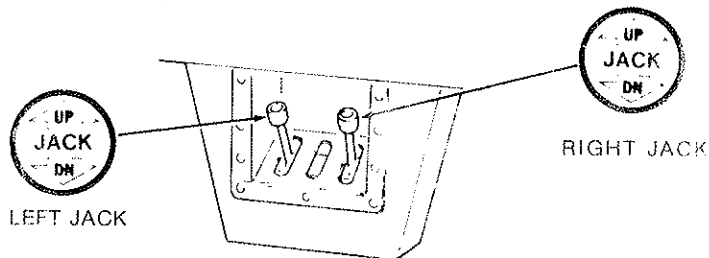

FIG. 2.3
2.6 The jacks are lowered or raised by activating control handles located at the forward control stations on either side of the wrecker body. (FIG. 2.3)